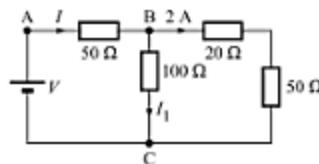

Fig. 2.44
18. Find the voltage V for the circuit shown in Fig. 2.44.